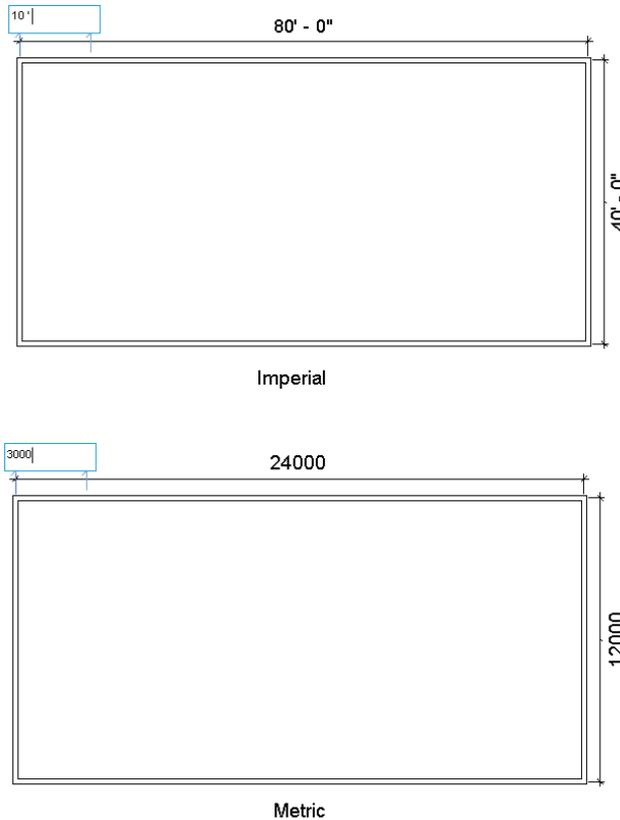

*Figure 3-64* Selecting the interior wall type from the **Type Selector** drop-down list
1. Invoke the **Wall: Architectural** tool; the wall instance parameters are displayed in the **Properties** Palette. In this Palette, select required wall type from the **Type Selector** drop-down list, as shown in Figure 3-64.